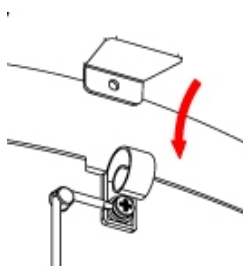

Figure 8.
- Carefully place the casing on the base of the device. To do so place it over the base with a slight incline from top to bottom, in such a way that the tab in the casing correctly inserts into the corresponding slot in the base (Figures 8 and n° 9).